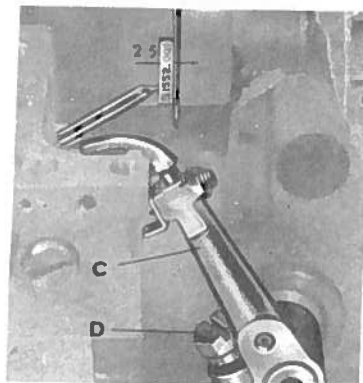

fig. 6
- When the primary looper has completed its stroke to the left and with the needle in its lowest position, the distance between the point of the looper to the needle is $1/64$ inch (fig. 6)
- If adjustment is required, loosen screw D (fig.6) and move looper holder C (fig. 6) left or right to the proper setting.
- With primary looper set as shown in fig. 6 adjust looper holder C (fig.6) forward or backward on primary looper shaft so that looper passes the needle on its stroke to the right as close as possible above the center of the needle scarf, and on its stroke to the left, below the center of the needle scarf with no deflection to the needle.